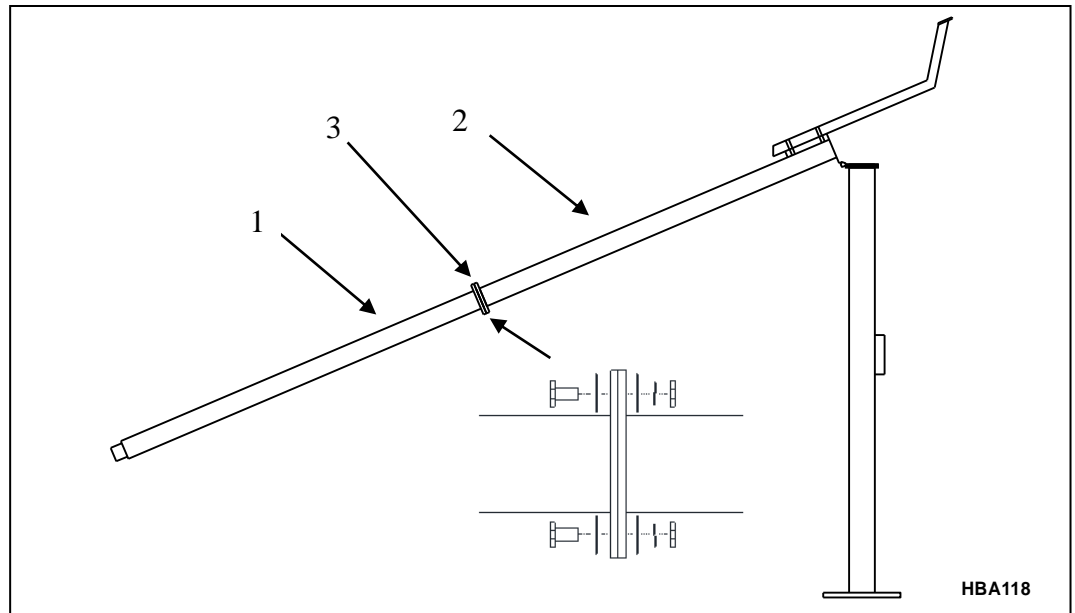

Figure 8A Attaching upper pole to lower pole
1. Using a 9/16" wrench, attach the upper pole section to the lower pole with the four 3/8" bolts, eight flat washers, four lock washers and four 3/8" nuts provided, see Figure 8A.